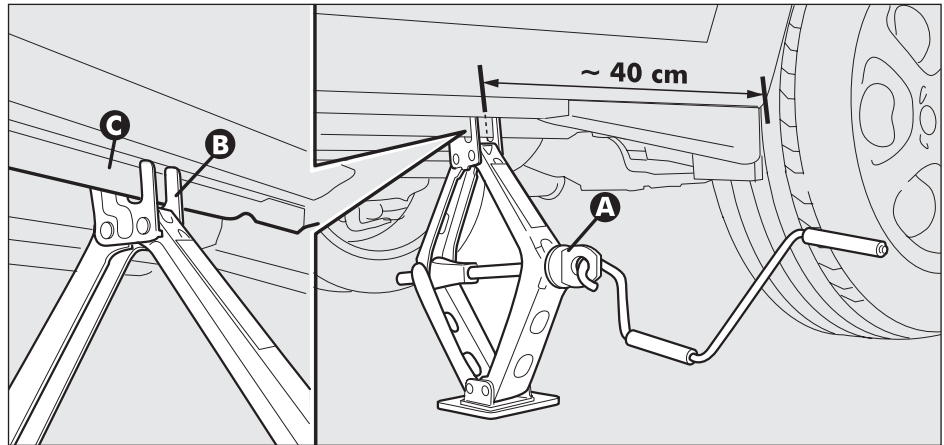

fig. 6
– Work the jack crank (A-fig. 6), to extend it until the groove (B) on the upper part of jack is correctly inserted on the lower profile of the body (C) approx. 40 cm from the profile of the wheelhouse.